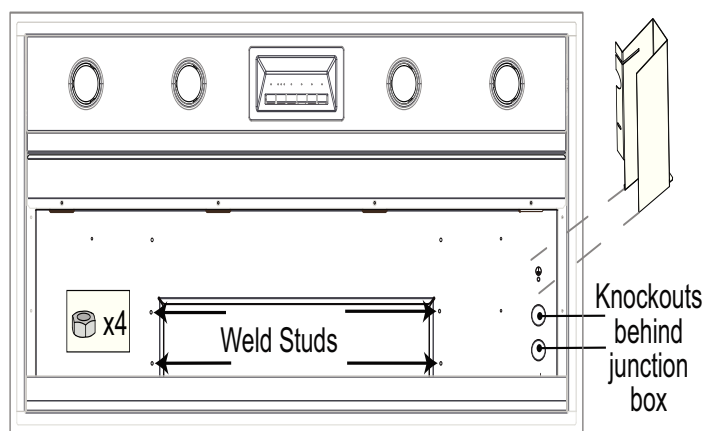
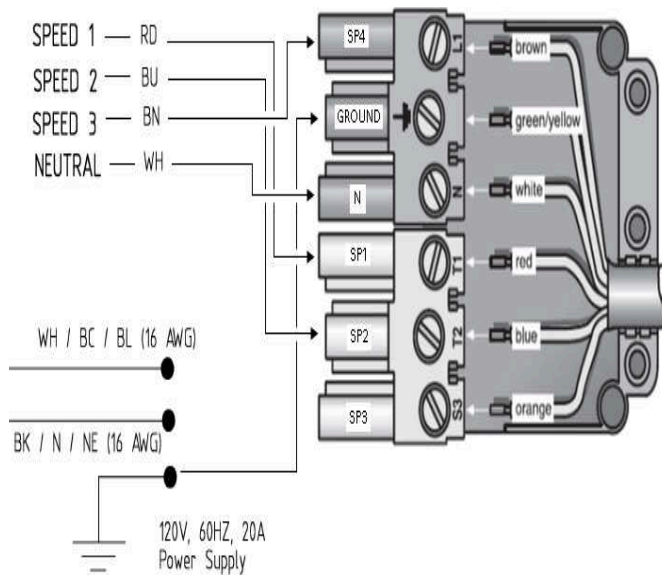
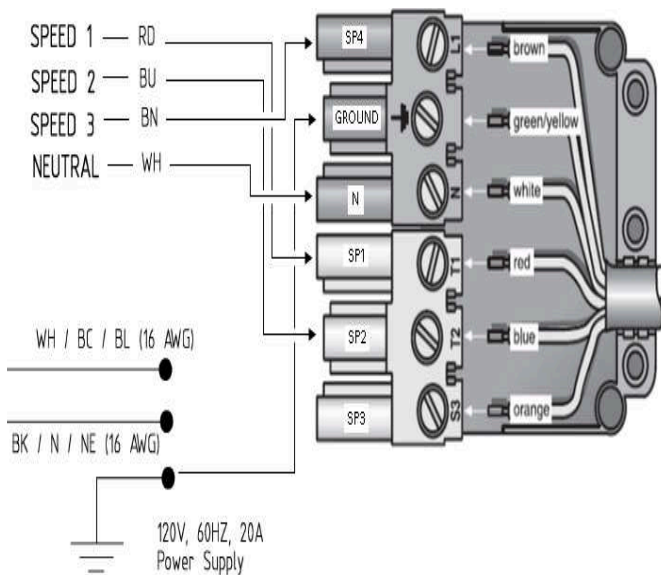

Figure 5: Weld Stud & Junction Box Locations
Figure 9: Wiring the Hood with a Remote Blower
Figure 11: Wiring the Hood with an Inline Blower
1. The blower is attached to the hood using weld studs provided on the mounting plate. *Figure 5* exhibits the weld stud locations.
3. Attach four (4) nuts (included with hood) to the weld studs. Tighten nuts to secure the blower to the hood.
1. Remove junction box channel covering the wires (see *Figure 5 on page 11*).
2. Remove circular knockouts (*Figure 5 on page 11*).
- Lost or missing wire nuts should only be replaced with spring type wire nuts, rated for a minimum of two (2) #18 gauge wires and maximum of four (4) #14 gauge wires, UL & CSA rated to 600V and 302°F (150°C).
7. Run five (5) #14 AWG wires in 1" (25.4 mm) conduit from the remote blower to the second conduit connector.
8. Connect the remote blower to the pigtail wires as per *Figure 9*. Connect the remote blower green (ground) wire to the ground screw in the junction box. Refer to the blower installation instructions for further wiring details.
- Lost or missing wire nuts should only be replaced with spring type wire nuts, rated for a minimum of two (2 #18 gauge wires and maximum of four (4) #14 gauge wires, UL & CSA rated to 600V and 302°F (150°C).
7. Run five (5) wires (#14 AWG) in 1" (25.4 mm) conduit from the inline blower to the second conduit connector.
8. Connect the inline blower to the pigtail wires as per *Figure 11*. Connect the inline blower green (ground) wire to the ground screw in the junction box.
- Remove the junction box cover (refer to *Figure 5 on page 11*).